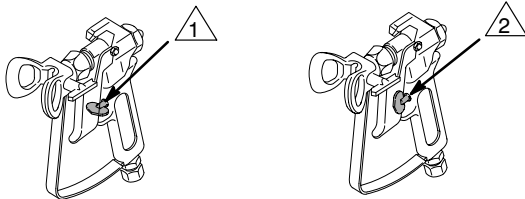

Fig. 2
2. **Close the pressure drain valve (50).**
5. **Lower the pressure setting** by turning the pressure adjusting knob (B) all the way counterclockwise.
6. **Disengage the gun safety latch.** See Fig. 2.